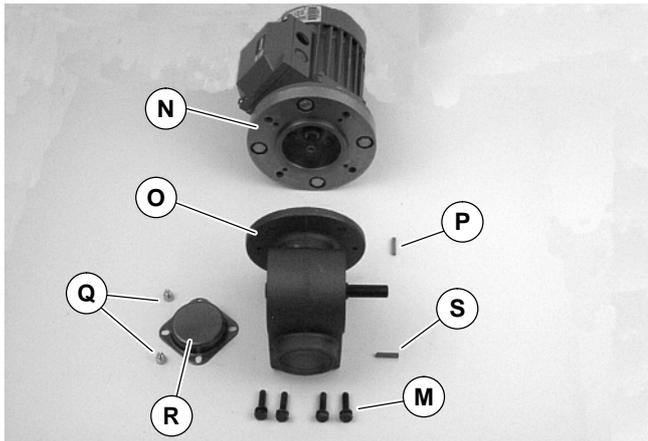

Figure 12
6. Remove four screws (M of Figure 12). Detach motor with adapter flange (N) from gear reducer (O). Retain motor output shaft key (P).
11. With key (P of Figure 12) in keyway, slide motor with adapter flange (N) and gear reducer (O) together. Install screws (M) and tighten.